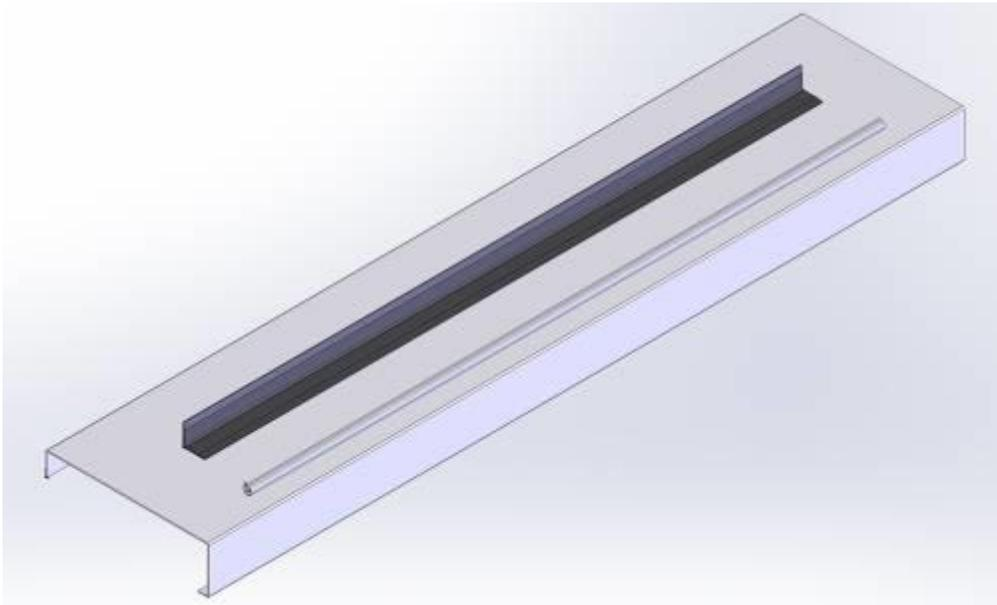

Fig. 2
4. Bolt Rubber wind deflector to the cap just ahead of where the tarp will lay on the cap. This will help keep wind from getting under tarp – see fig. 2.
3. The next mark will be the vertical center mark. It will need to be offset from the center of the trailer by 1.25" towards the lock down side. Refer to figure 2 for clarification.